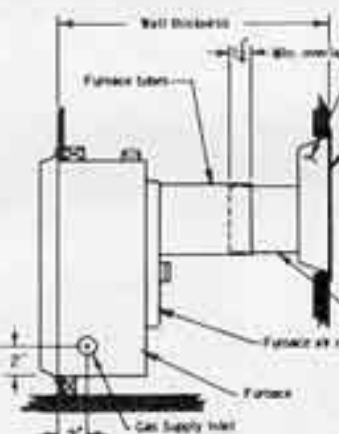

FIG. 3
2. Select furnace location so that vent will terminate on an outside wall. Determine wall thickness. See Figure 3. Check VentKit Selection Chart shown below to assure that Vent Kit matches wall thickness. **OBSERVE ALL MEASUREMENTS SHOWN HEREIN.**
6. From outside, insert vent box assembly through opening provided under step 4 until the tube engages the furnace tube. See Figure 3. Place exhaust tube assembly into vent box making sure the exhaust tube extension slides over outside of furnace exhaust tube. Push vent cap into vent box until mounting arms slide into channels located on each side of vent box. Attach vent box grill over vent cap assembly. See Figure 4.
11. Connect gas supply to fitting provided at inlet of gas controls on furnace. Openings for gas line are provided in side and back of casing. See Figure 3. **CAUTION:** BE SURE ENTIRE GAS LINE SYSTEM IS TIGHT AND FREE FROM LEAKS. USE SOAP AND WATER SOLUTION FOR CHECKING FOR LEAKS. DO NOT FIRE ANY APPLIANCE UNTIL SYSTEM IS FULLY CHECKED OUT. HAVE ENTIRE GAS SYSTEM RECHECKED AT LEAST ONCE A YEAR FOR LEAKS. ALSO, WHILE CHECKING, DO NOT APPLY MORE THAN ½ PSI PRESSURE. (This would be 14" water column if using a water type gauge.)